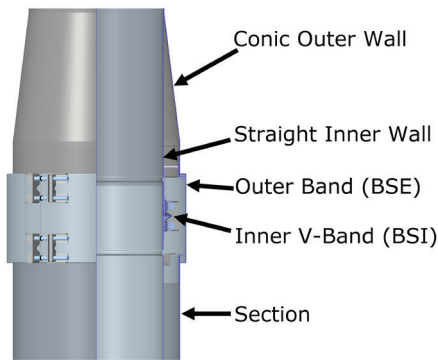

Figure 67- Exit Cone (EC) installed
The Finishing Cone (FC) is a single wall construction (for Model DCL) or a Double wall construction (for Models DAS1, DIS1, DIS2 and DIS4), where the inner wall is straight, but the outer wall is a cone. It attaches with a standard Inner V-Band (BSI) and Outer Band (BSE) (See **JOINT ASSEMBLY Section**) to the uppermost chimney pipe section. To prevent rain from reaching an appliance this installation requires use of a Drain Length (DL) in a vertical run or a Drain Tee Cap (DTC) at the end of a vertical chimney. See **Figure 67**.